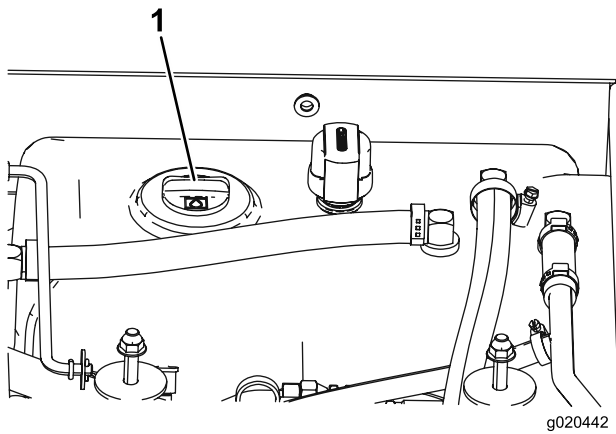

Figure 11
3. Clean the area around the filler neck and cap of the hydraulic tank (Figure 11). Remove the cap from the filler neck.